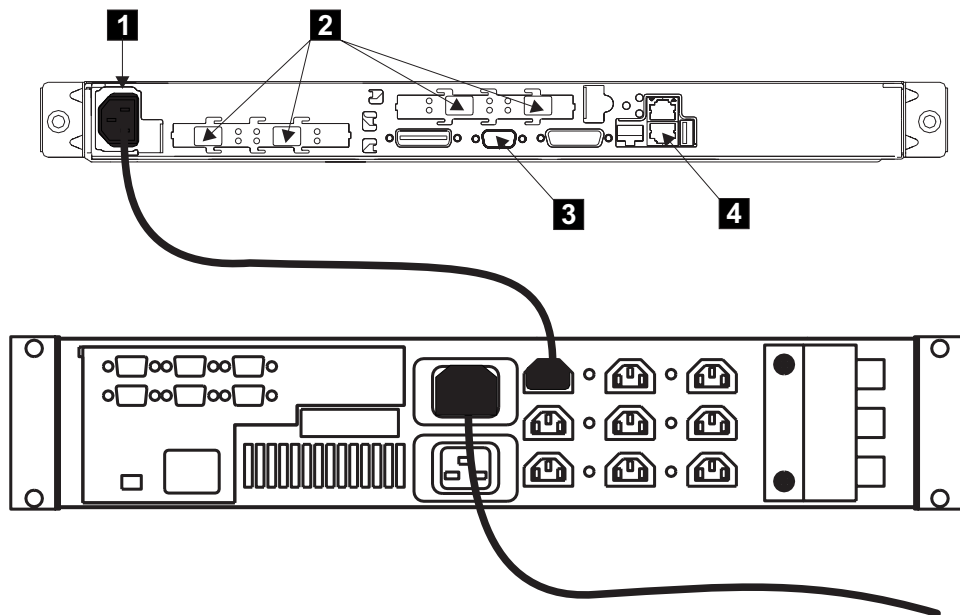

Figure 1. Power cable and signal sockets
Figure 1 shows the connectors for the SAN Volume Controller and the uninterruptible power supply.
2. Ensure that the power cable **1** is plugged into the uninterruptible power supply. Also ensure that the other ends of the power cable are connected to the power supply in the rack. See Figure 1.